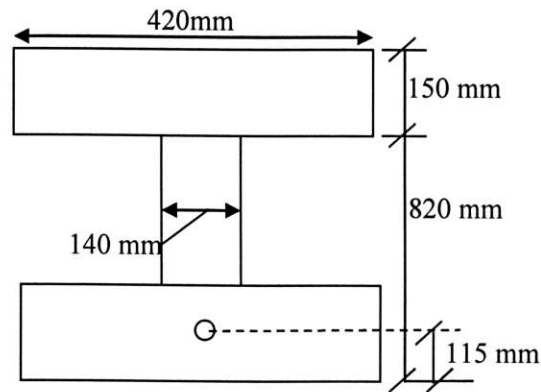

Figure: 3
3. (a) A symmetric I-section is prestressed with 1850 mm^2 steel with an effective stress 1200 MPa . The c.g.s of strands which supply the prestress is 115 mm above the bottom of the beam as shown in Figure: 3. Find the ultimate moment capacity of the section for design. (Given: $f_{pu}=1800 \text{ MPa}$, $f'_c=48 \text{ MPa}$) (8)